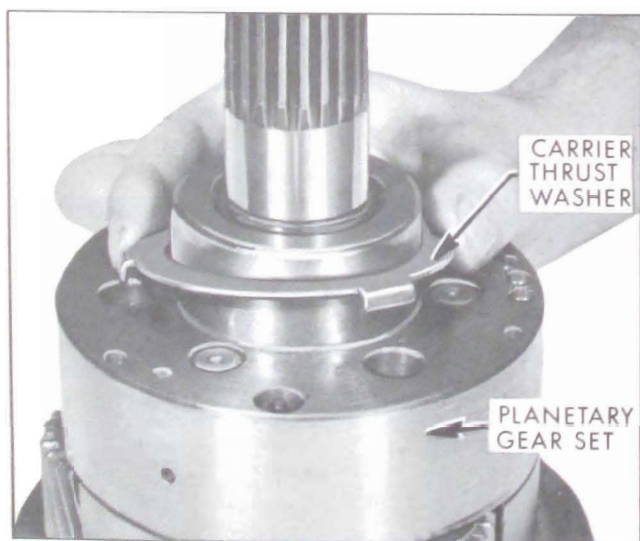

Figure 5-106-A—Installing Planet Carrier Thrust Washer
7. Install tanged thrust washer on rear of planet carrier. See Figure 5-106-A.